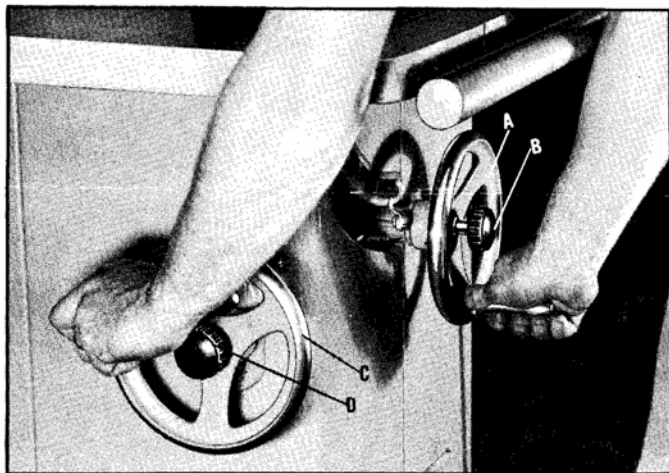

Fig. 10.
The saw blade is raised and lowered with the front handwheel (A) Fig. 10. With the exception of hollow ground blades, the blade should be raised $1/8''$ to $1/4''$ above the top surface of the material being cut. With hollow ground blades the blade should be raised the maximum to provide greater clearance.
The saw blade is locked at any height by turning the hand knob (B) Fig. 10. Due to the wedge action of this locking device, only a small amount of force is required to lock securely. Any added force merely puts unnecessary strain on the locking device.
The saw blade is tilted by turning the handwheel (C) Fig. 10, at the left side of the cabinet. Each turn of the handwheel equals approximately one and one-half degrees tilt. The tilting handwheel can be locked at any angle by turning the hand knob (D) Fig. 10. Only a small amount of force is necessary to lock the handwheel securely.